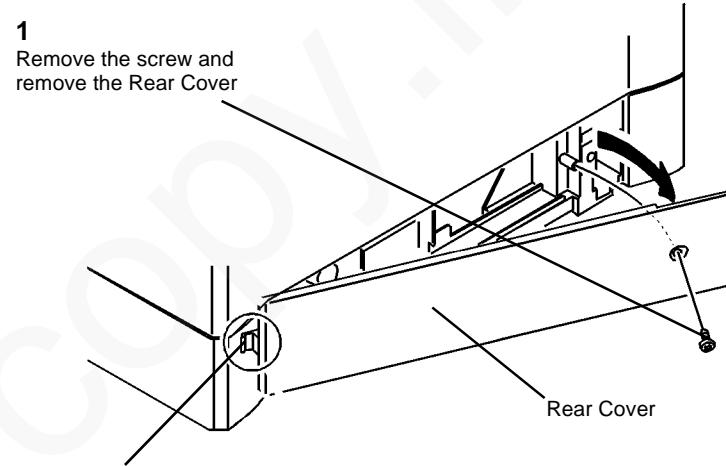

Figure 1 Removing the Rear Cover
1. (Figure 1): Remove the Rear Cover.